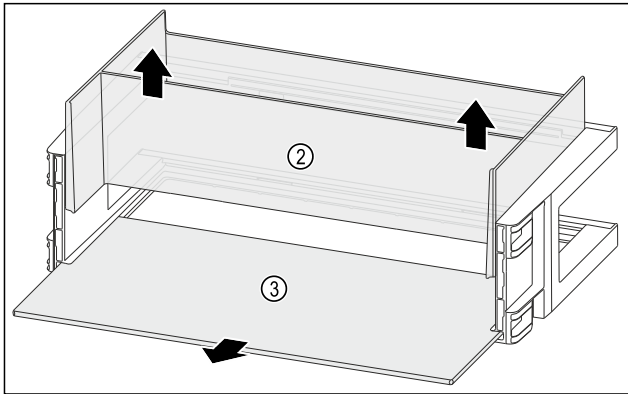

Fig. 148
- Remove the organizer Fig. 148 (2) upwards.
- Remove the shelf Fig. 148 (3).